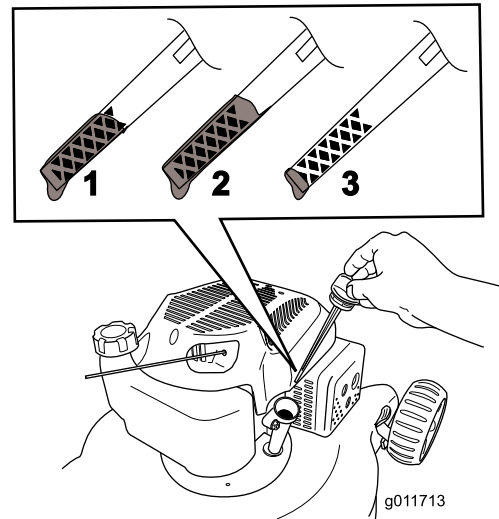

Figure 8
5. To determine the proper oil level on the dipstick, refer to Figure 8).
**Note:** Fill the engine crankcase with oil until the dipstick indicates that the engine oil level is correct as shown in Figure 8. If you overfill the engine with oil, remove the excess oil as directed in Changing the Engine Oil.